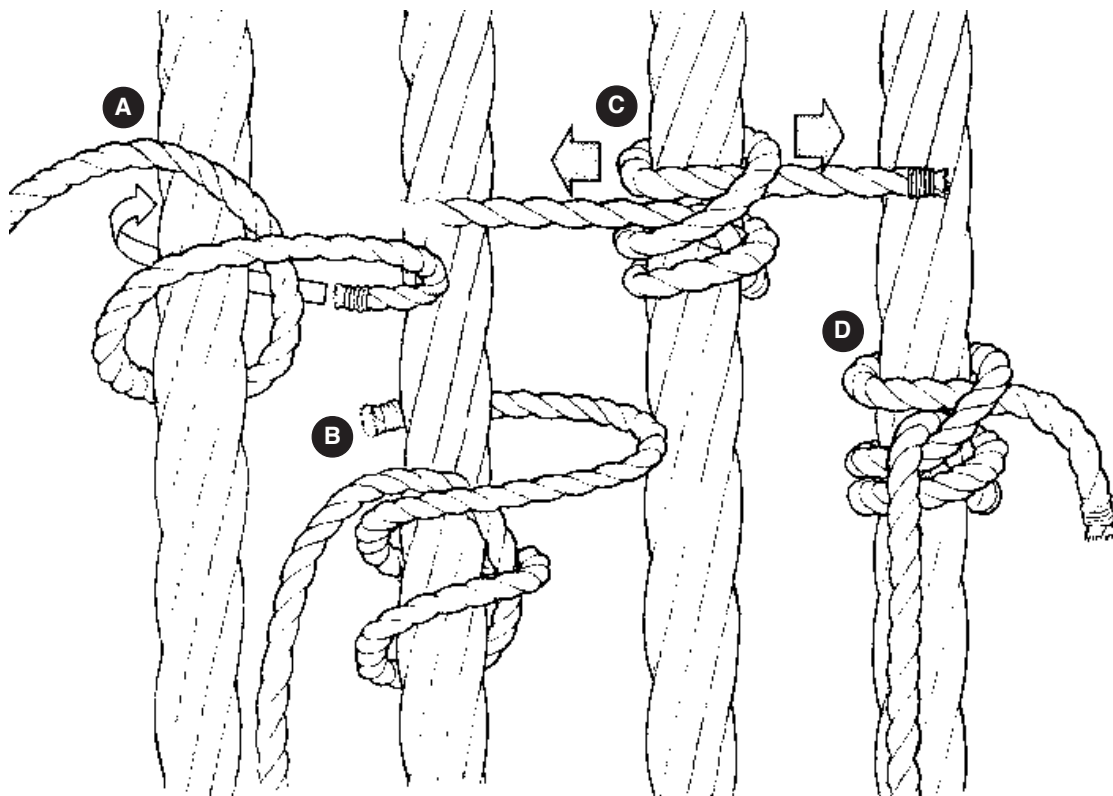

Figure 14.4 The rolling hitch
2. Study Figure 14.4 to tie this knot.